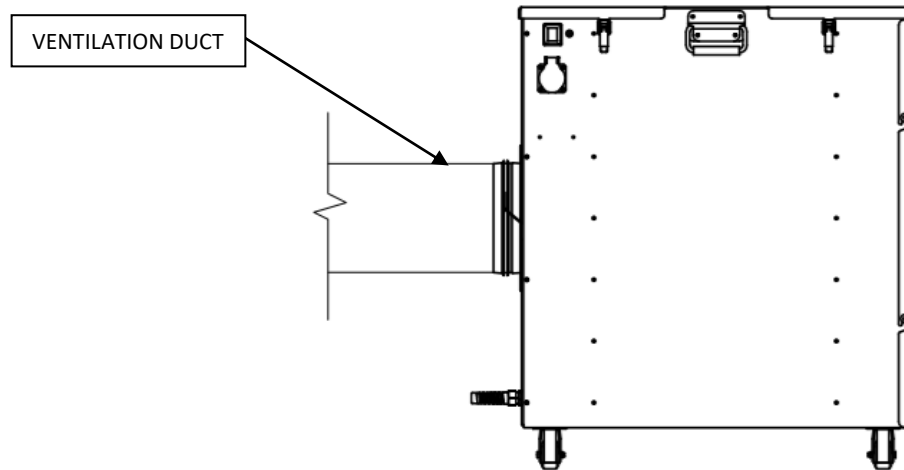

Fig.2. The device schema with connected air duct
- The device should be placed on stands close to pollution source. The device should not be placed on its side or in any other improper position. After using an appropriate ventilation duct, the device can be used as a local extractor with air exhaust [Fig. 2].